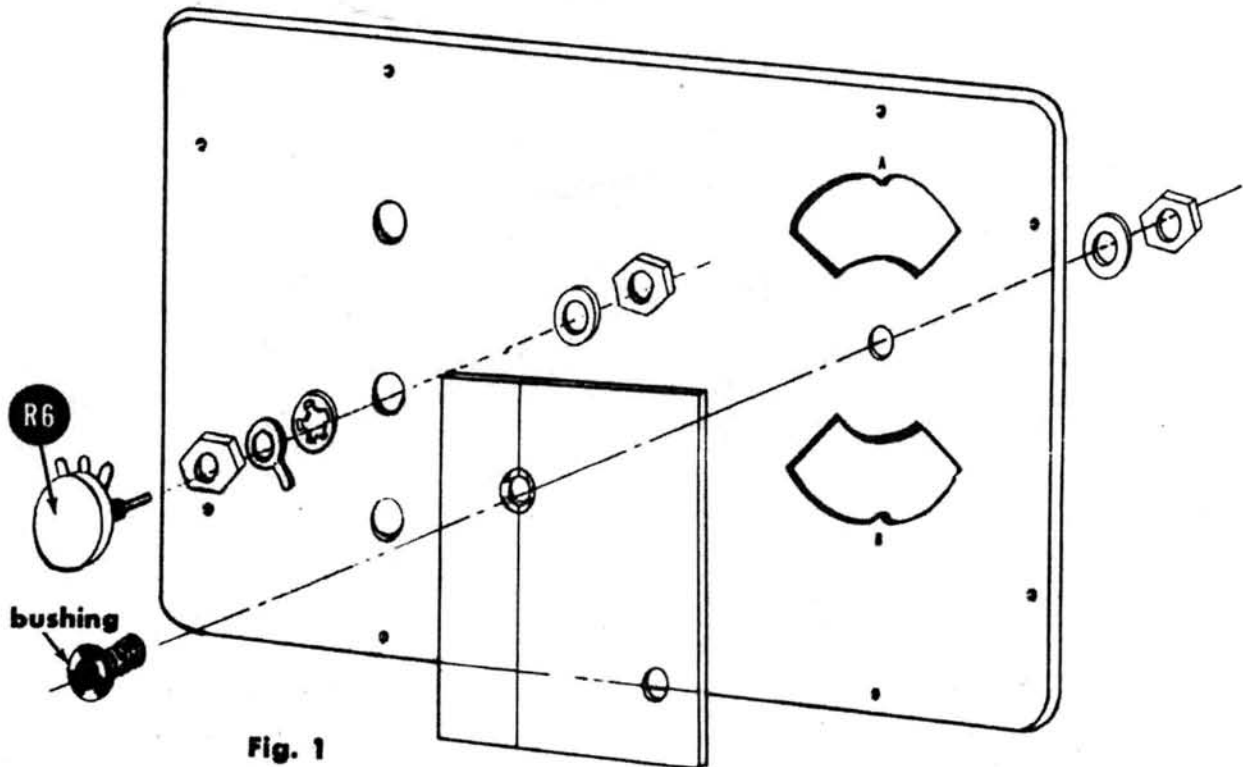

Fig. 1
- () Fig. 1. Mount the plexiglass window to the panel with the bushing, 1-3/8 flat washer, and 1-3/8 hex nut. Note that the hole in the window used for mounting is counterbored to accept the bushing and that the panel lamp hole in the window is at the lower right in the rear view. Note also that there is a scribed hairline on the back surface of the window which passes through the center of the mounting hole. Before tightening the nut, line up the window so that both indicating points A & B on the panel lie directly over the hairline.
- () Fig. 1. Mount the RF FINE potentiometer R6 (200Ω) to the panel, using 2-3/8 hex nuts, 1-3/8 ground lug, 1-3/8 lock washer, and 1-3/8 panel washer.